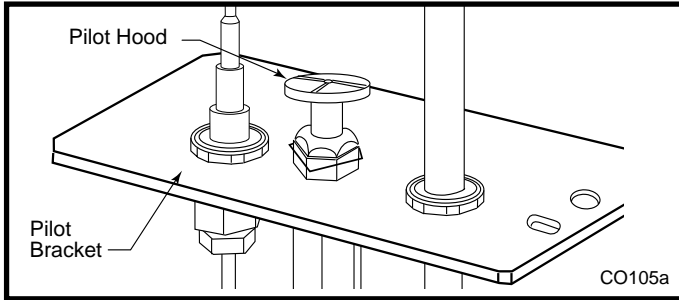

Fig. 54 Remove pilot hood.
- Remove pilot hood by lifting up. (Fig. 54) **NOTE:** Do not remove snap ring to remove pilot hood. **NOTE:** It is not necessary to remove the pilot tube for conversion.